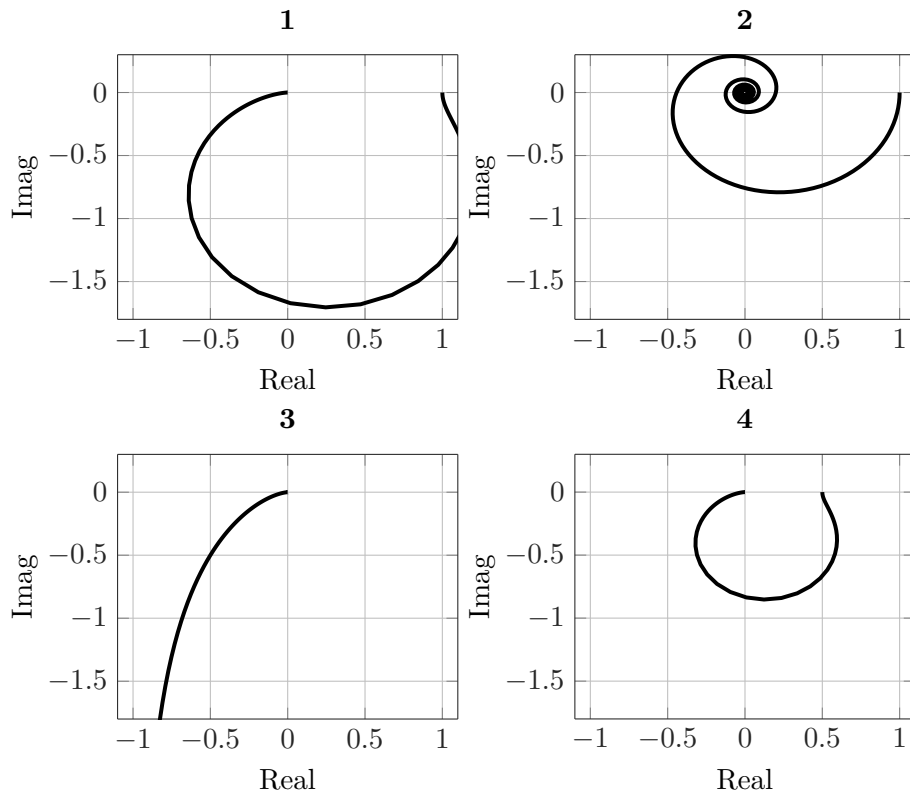
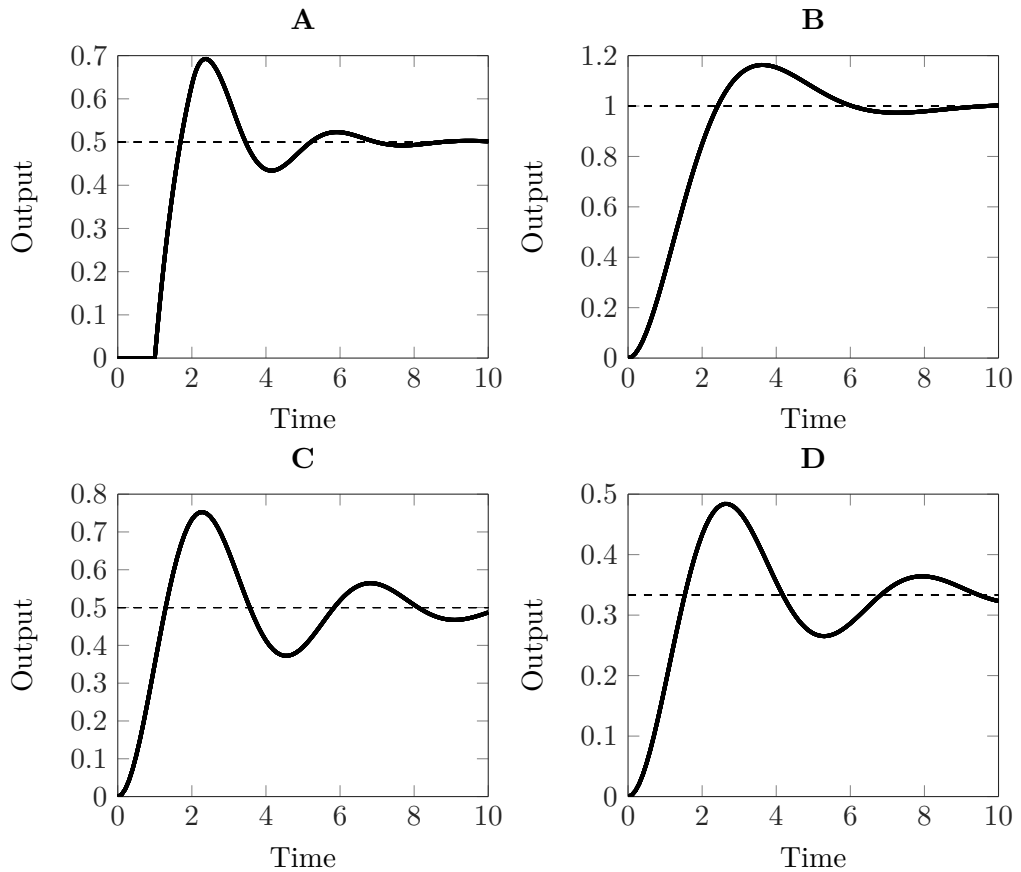

Figure 3 Nyquist plots of four loop transfer functions.
Figure 4 Unit step responses and stationary values of four closed-loop systems.
4. Figure 3 shows Nyquist plots of four loop transfer functions $G_0(s)$. Figure 4 shows responses to unit steps, together with their stationary values, from the corresponding closed-loop systems, i.e. from $\frac{G_0(s)}{1+G_0(s)}$. Combine the Nyquist plots 1–4 with the step responses A–D, and don't forget to motivate the answers! (2 p)